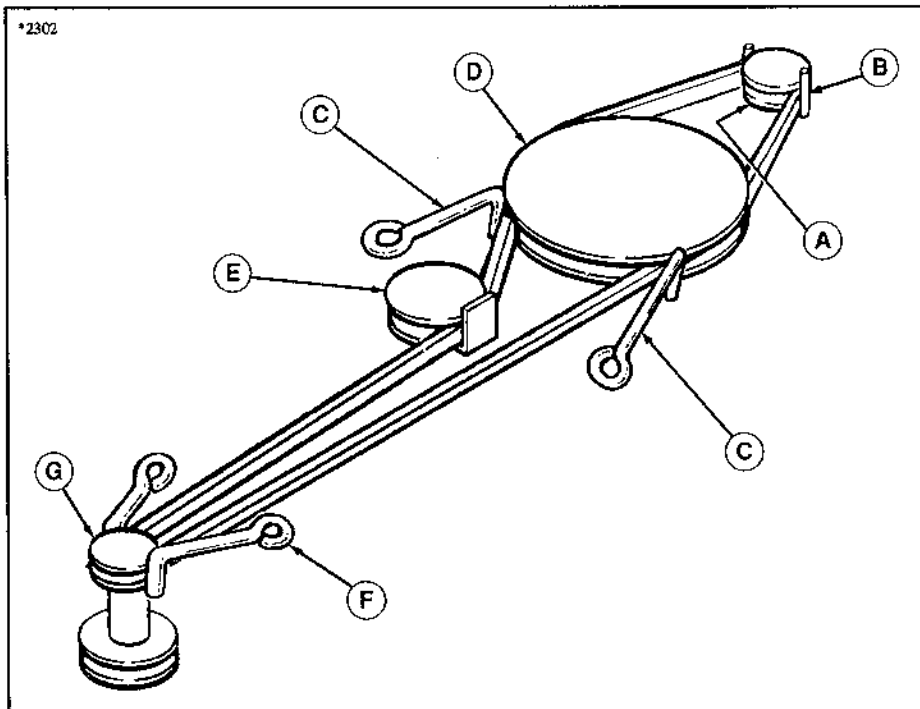

Figure 22.
6. Loosen nutsecuring rear idler pulley (A, figure 22) and slide pulley forward to release belt tension. Belt guide (B) will be loose.
7. Loosen belt stops (C) on transmission drive pulley (D).
9. Remove belt from idler pulley (E).
10. Loosen the belt stops (F) from engine pulley (G).
11. Remove the belt from the engine pulley (G).
12. Install the belt in reverse order of removal procedure. The belt pattern is shown in figure 22.